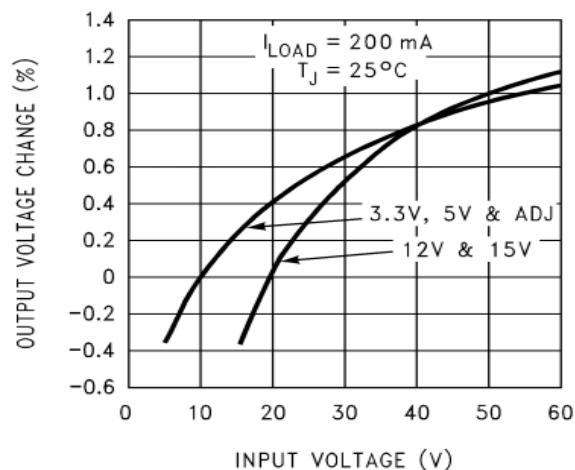

Figure 2. Line Regulation
4. External components such as the catch diode, inductor, input and output capacitors can affect switching regulator system performance. When the LM2575S is used as shown in the Figure2 testcircuit, system performance will be as shown in system parameters section of Electrical Characteristics.